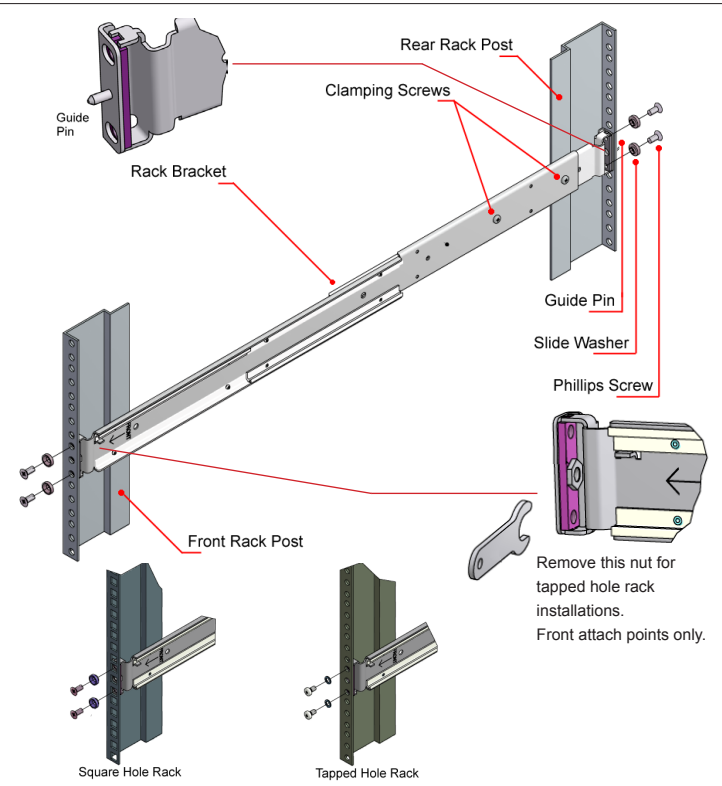

Figure 3: Securing Rack Brackets to Rack Posts
- Assemble the rack brackets to the rack posts as follows (see Figure 3). The brackets are universal and will fit either side.
- Tighten the two clamping screws located along the inside of the rear section of the rack bracket. (See Figure 3.)
- Install PSU Modules in the rear of the enclosure (see Figures 3 & 4):